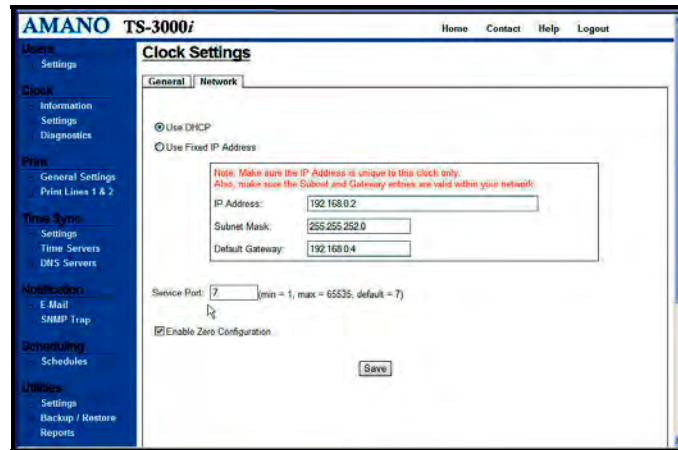

Figure 4-5. Network Clock Settings.
- Step 7. Click on the **Network** tab and the Clock Settings screen for network will appear (see *Figure 4-5*).